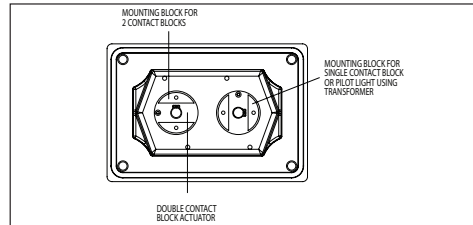

Figure 2. Mounting Block Orientation
- On the inside of the cover, fasten the mounting block to the bearing thread. Orient the mounting block as shown in Figure 2, allowing the contact block(s) to be in the proper position based on number of contact blocks and operator type. Tighten the set screw to lock the push button assembly to the cover. See Torque Table.
2. Fasten the mounting block to the pilot light assembly thread. Do not use the lock nut. Orient the mounting block as shown in Figure 2, so that the transformer does not interfere with adjacent devices.